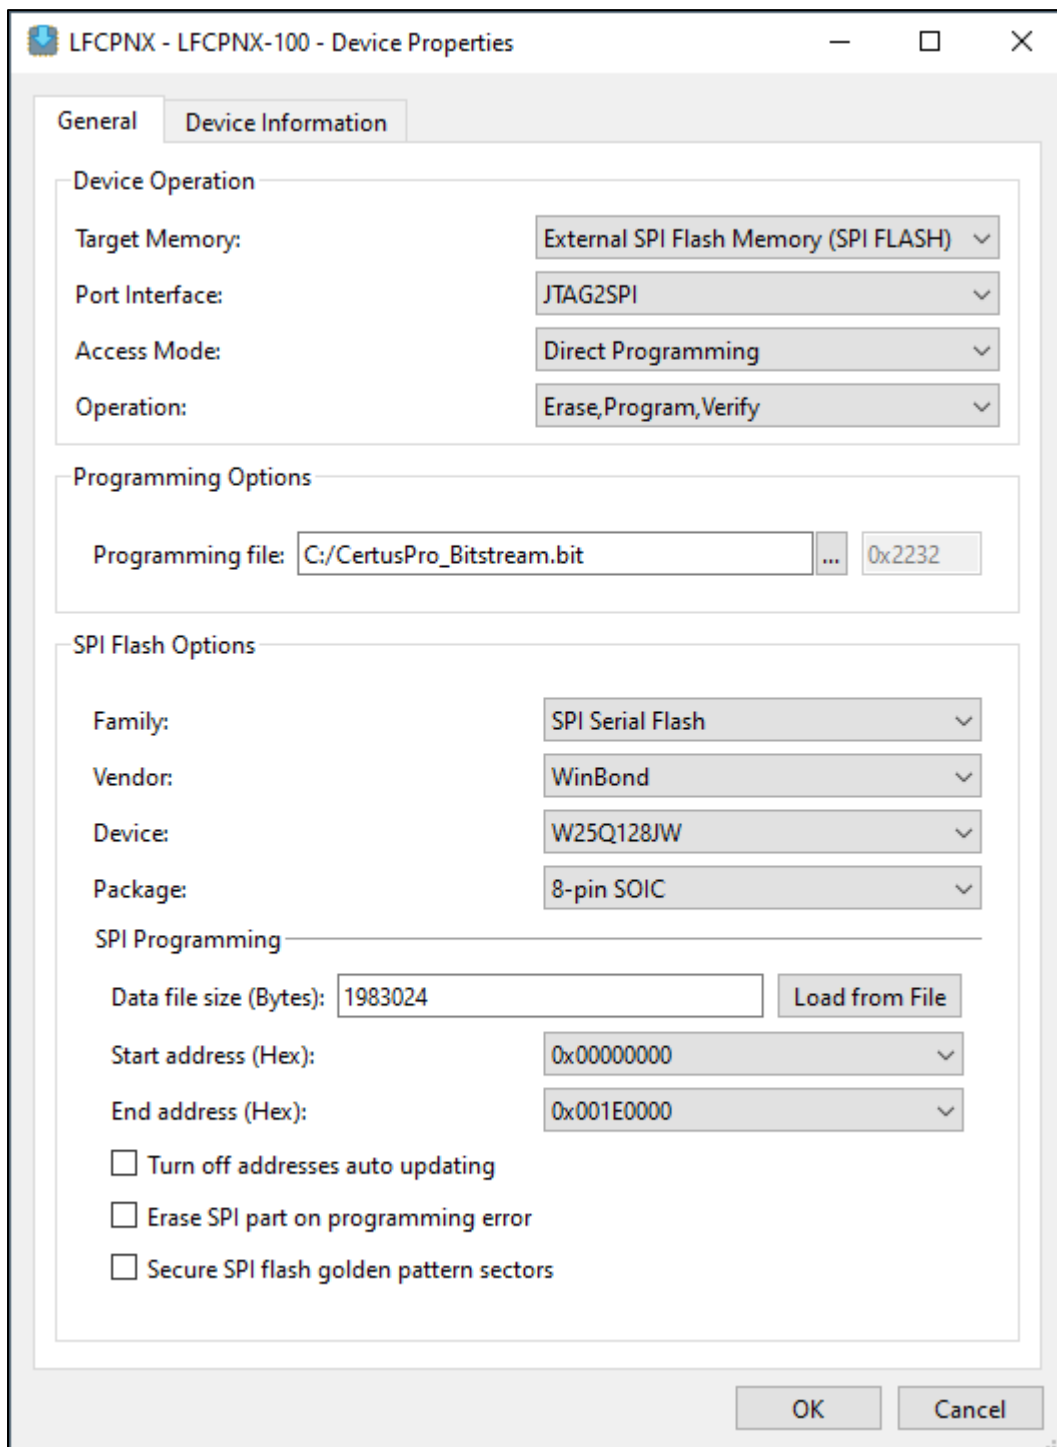
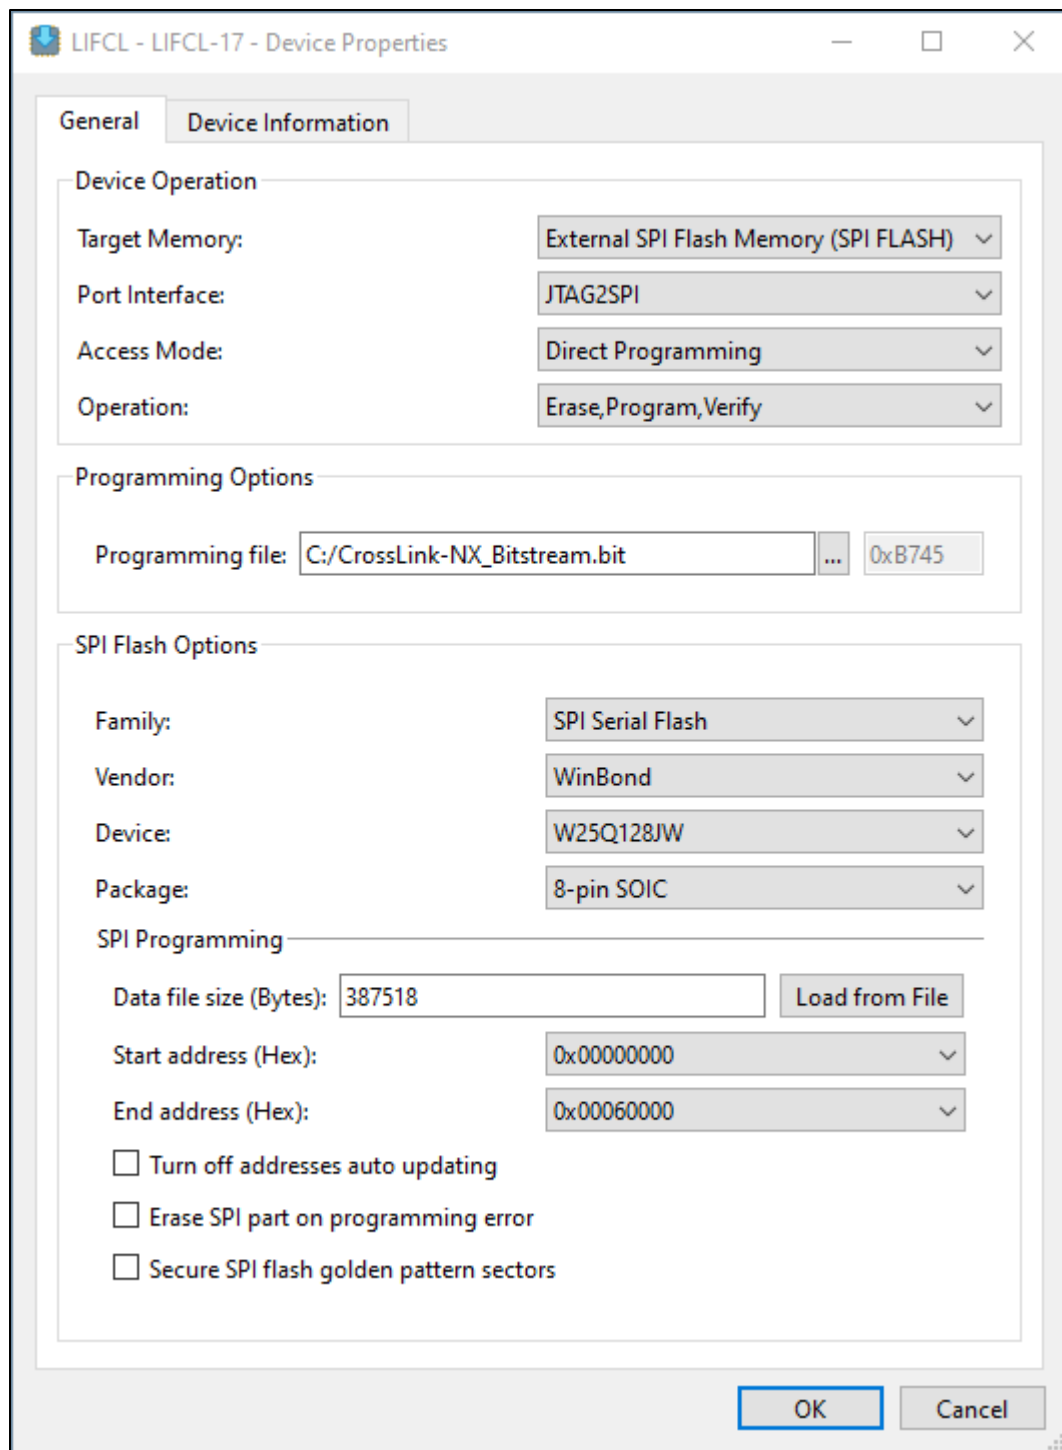

Figure 3.10. External SPI Flash Memory (SPI Flash) Device Properties Window – CertusPro-NX
Figure 3.11. External SPI Flash Memory (SPI Flash) Device Properties Window – CertusPro-NX
3. Double-click on the **Operation** field and select the appropriate programming mode. In this example, **Erase, Program, Verify of External SPI Flash Memory (SPI Flash)** is selected (Figure 3.10 and Figure 3.11).